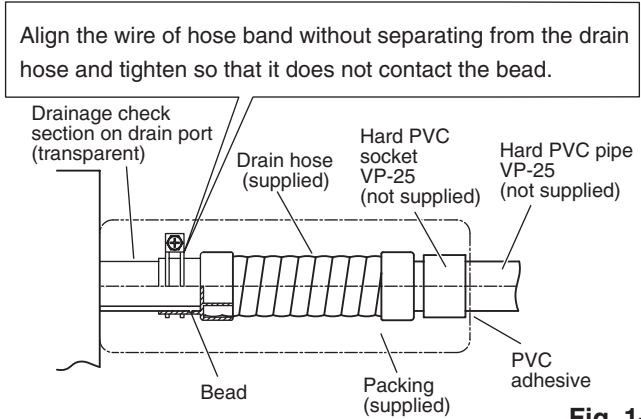

Fig. 1-39
- (1) Prepare standard hard PVC pipe (O.D. 1-17/64" (O.D. 32 mm)) for the drain and use the supplied hose band to prevent water leaks. The PVC pipe must be purchased separately. The transparent drain part on the unit allows you to check drainage. (Fig. 1-39)
- Tighten the hose clamps so their locking nuts face upward. (Fig. 1-39)